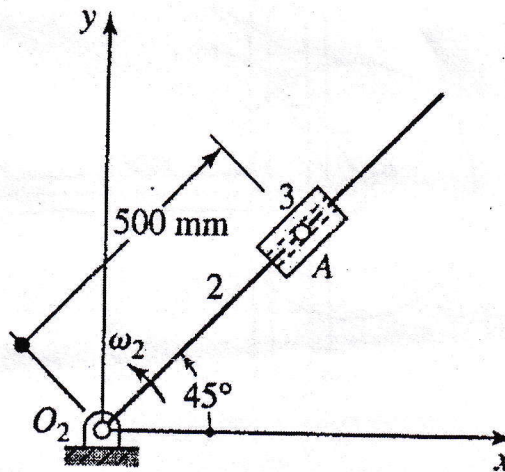

Figure 3
- b) In figure 3 block 3 slides outward on link 2 at a uniform rate of 30 m/s, while link 2 is rotating at a constant angular velocity of 50 rad/s CCW. Determine the total acceleration of point A of the block. [4]